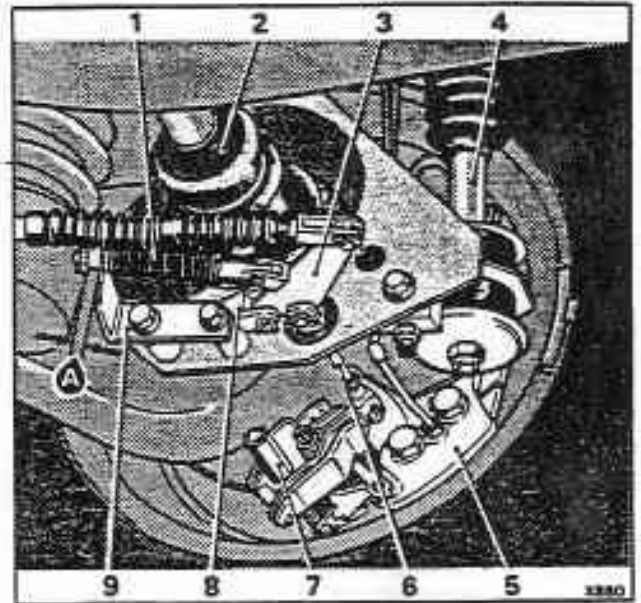

Fig. G17-5 Parking brake caliper and cable adjustment
5. Ensure that the parking brake caliper is on its 'off stop'. Check that the clearance (see fig. G17-5, point A) between the washer on the spring guide rod and the spring abutment bracket is approximately 6 mm (0.25 in) at the point of minimum clearance. Bend the abutment bracket as necessary.